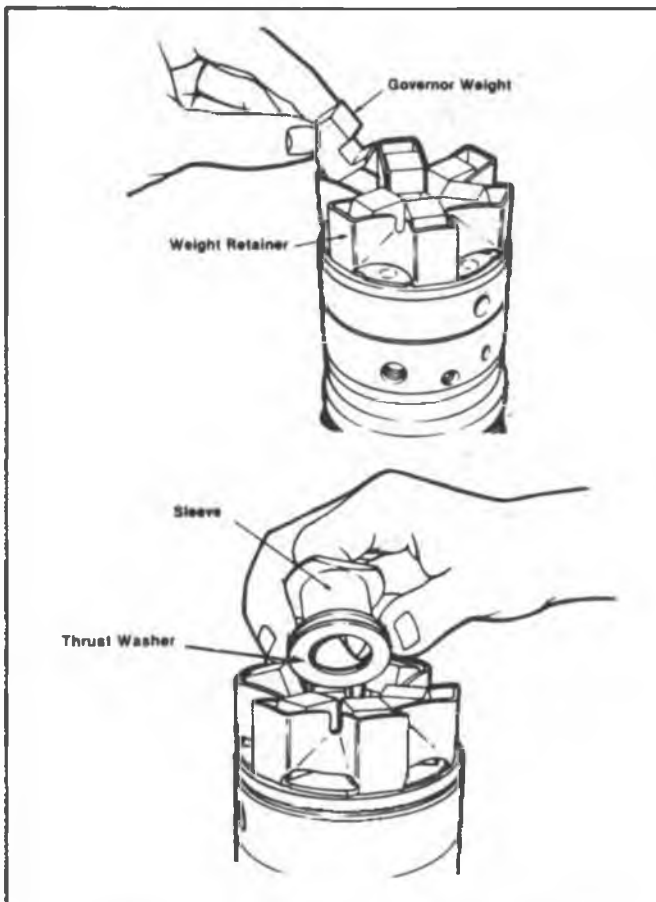

Fig. 2-33 Governor Weights, Thrust Washer and Sleeve
5. Install governor weights, thrust washer (if chamfered, chamfered edge up) and thrust sleeve to the head and rotor assembly (Fig. 2-33).